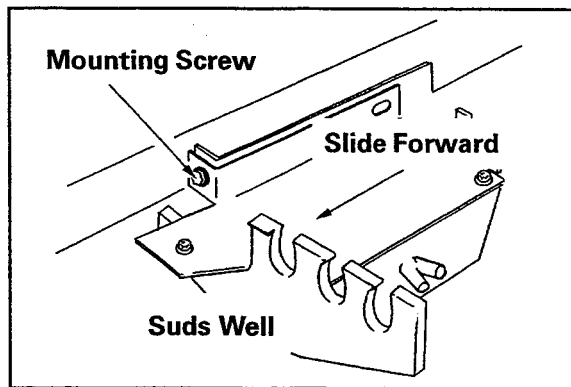

Figure 2-30
5. Remove the mounting screw holding the "suds well" into position. Slide the "suds well" forward and lower out of the way (Figure 2-30).